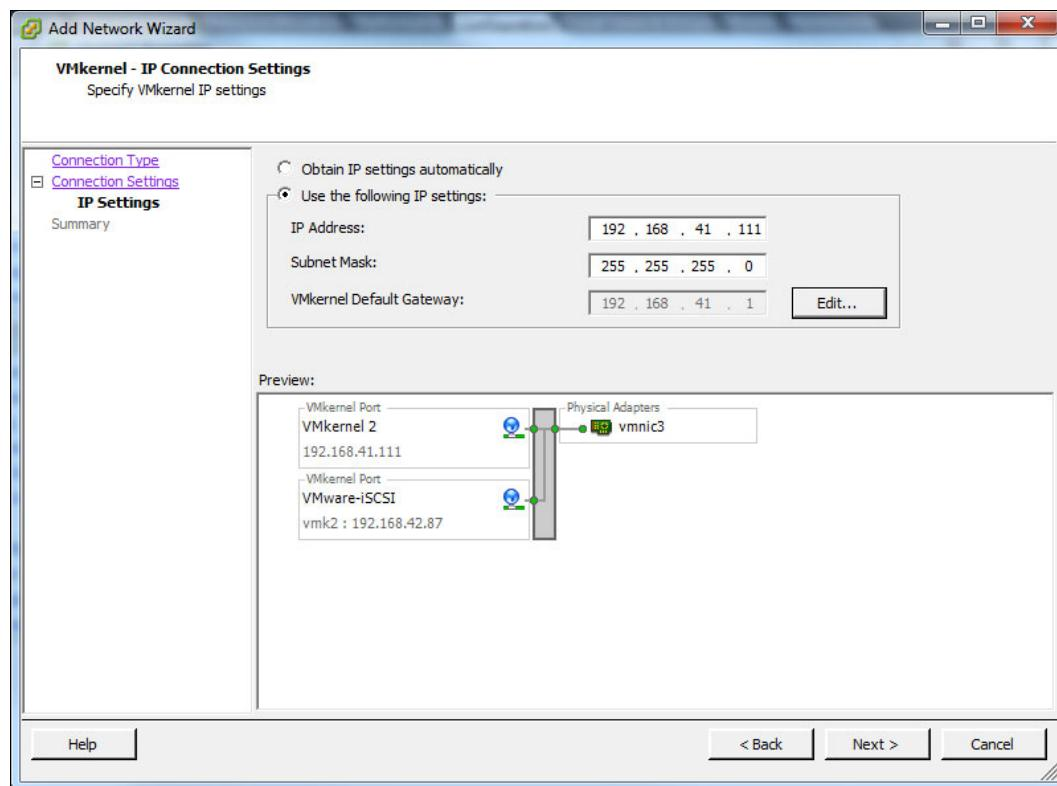

Figure 7-39 VMkernel: IP Connections Settings
- If you are using DHCP for your network, select **Obtain IP setting automatically**. Otherwise, select **Use the following IP settings** to configure a static IP for the VMkernel interface on the VMkernel - IP configurations settings window, as shown in Figure 7-39.